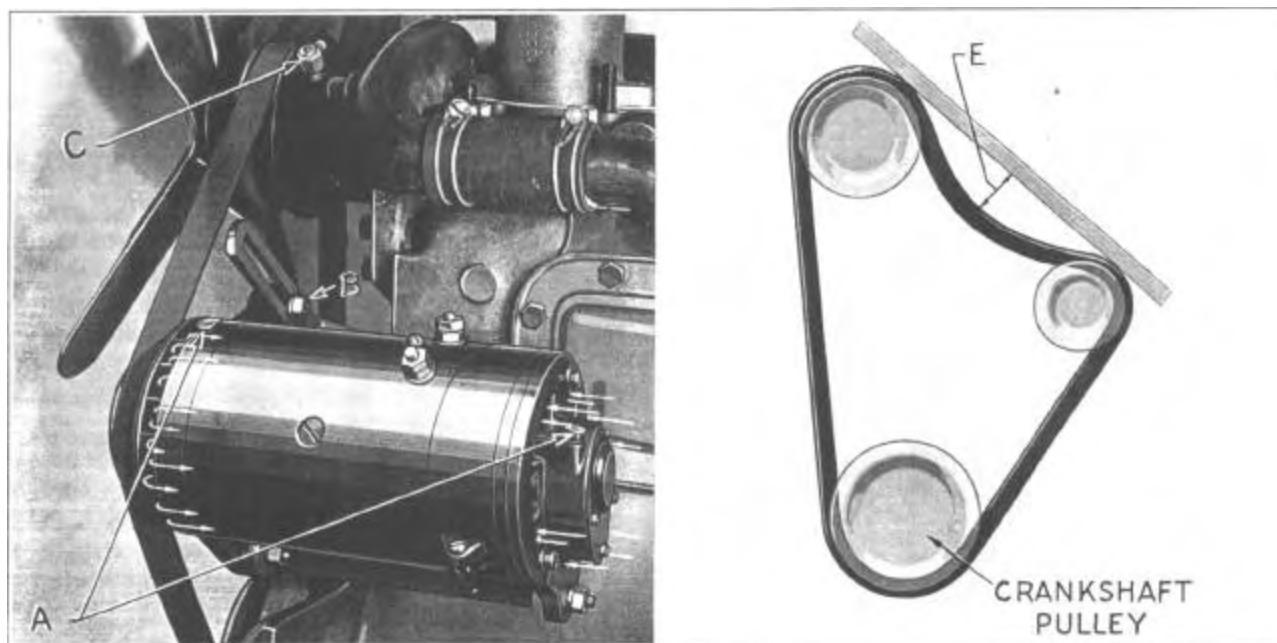

Figure 503—Adjusting Fan Belt
2. Pull generator away from engine until the slack in the belt is such that the section between the water pump pulley and the generator pulley can be pushed down 1" below a straight edge laid across these pulleys. (See Figure 503).
When the packing becomes worn so that the gland nut bottoms on the thread, remove the gland nut and insert a service packing split ring and replace the gland nut. Figure 503 shows the method of adding one packing ring to the old packing.